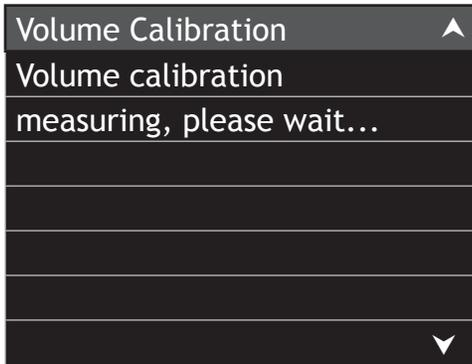
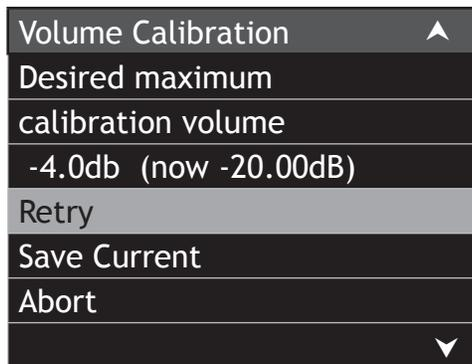
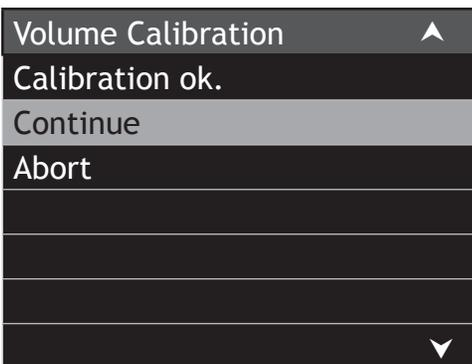
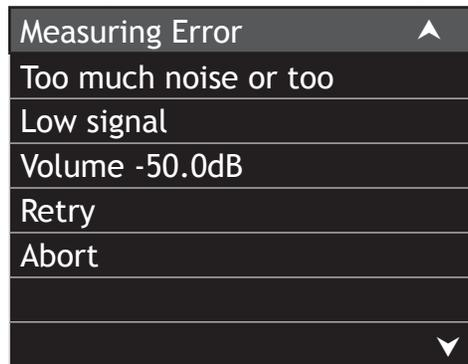

Figure 27
Figure 28
Figure 29
Figure 30
- Press the SELECT Push-button and the “Volume Calibration measuring” will appear. Refer to figure 27. The MX150 will send out to each of the loudspeakers, one at a time, a test tone to obtain a measurement level making sure it is above the background noise level in your room. Several minutes after testing, figure 28 (on page 26) will appear on-screen. Select “Save Current” and press the SELECT Push-button. When figure 29 (on page 26) appears On-Screen, select continue and press the SELECT Push-button.
Note: The Desired maximum calibration volume (-4.0db) level and the current (now -20.00dB) volume indications in figure 28 will probably be different in your room. The size of your room, loudspeaker distance from the microphone position and the efficiency of the loudspeakers all effect the readings. If the test signal was too loud, reduce it by using the Volume Control by 10dB (the example in figure 28 would now read -30.00dB). Select "Retry" then "Save Current". If for some reason the volume level needs to be higher, a "Measuring Error" will appear on the screen refer to figure 30.